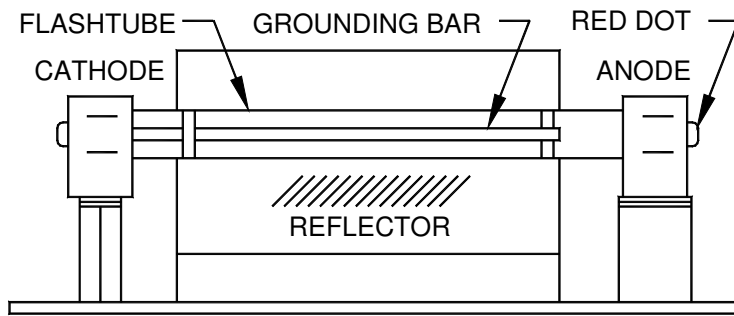

Figure 4 - Flashtube Orientation
7. To reinstall a new FXQG33-1.75 flashtube, gently grip the lamp between the thumb and index fingers and smoothly insert each end of the flashtube into place in the retainers, one side at a time. (Figure 4).